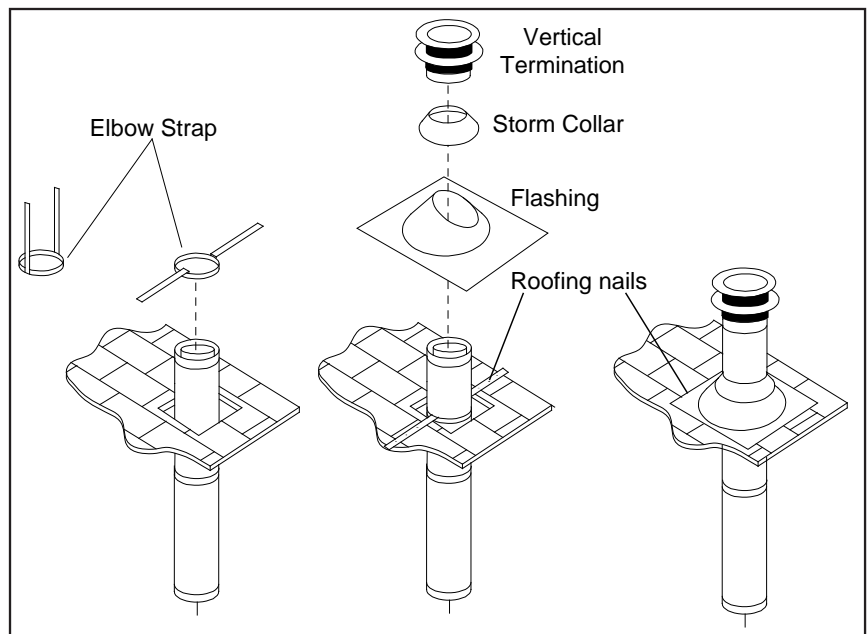
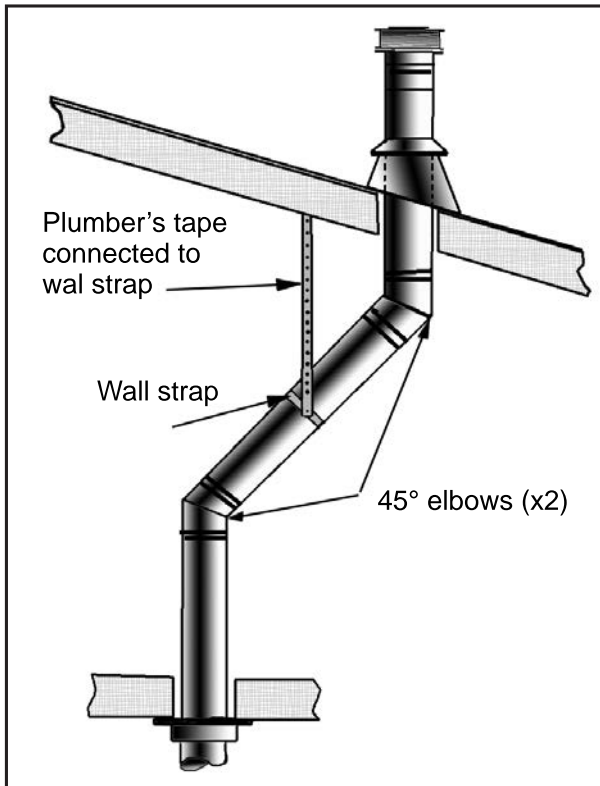
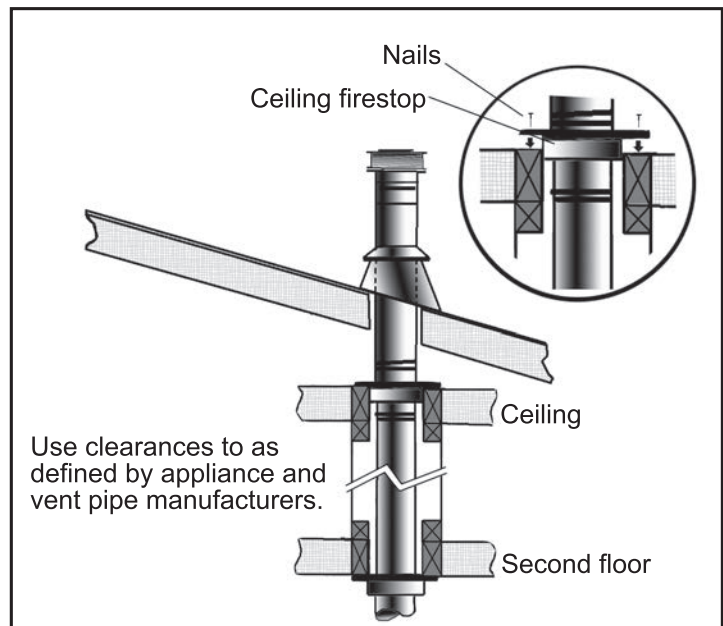

Figure 53: Vertical Vent Termination
Figure 55: Use of Wall Straps.
Figure 56: Multi-Story Vent Pipe Installation
- Step 3.** To install the Round Support Box/Wall Thimble in a flat ceiling, cut a **10 " (25.4 cm)** square hole in the ceiling, centered in the hole drilled in Step 2. Frame the hole as shown in Figure 53.
- Step 6.** Once the pipe sections have been joined, and run up through the hole in the roof, slip an elbow strap over the exposed sections, bend the support straps outwards, and push the elbow strap down to the roof level, as shown in Figure 53. Tighten the clamp around the pipe section. Use a level to make sure the pipe is truly vertical. With roofing nails, secure the support straps to the roof. Seal the nails holes heads with non-hardening mastic. Trim the excess length of the support straps that extend out beyond the edge of the flashing.
- Step 9.** Slip the storm collar over the pipe, and push it down to the top of the roof flashing as shown in Figure 53. Use the non-hardening sealant around the joint between the pipe and the storm collar.
- (1) If an offset is necessary in the attic to avoid obstructions, it is important to support the vent pipe every **3' (914 mm)**, to avoid excessive stress on the elbows, and possible separation. Wall straps are available for this purpose (see Figure 55).
- (2) When ever possible, use 45° degree elbows instead of 90° degree elbows. The 45° degree elbow offers less restriction to the flow of flue gases and intake air.
- (3) For multi story installations; a ceiling firestop is required at the second floor, and any subsequent floors (see Figure 56). The opening should be framed to **10" (254 mm) x 10" (254 mm)** inside dimensions, in the same manner as shown in Figure 53.
- (4) Any occupied areas above the first floor, including closets and storage spaces, which the vertical vent passes through, must be enclosed. The enclosure may be framed and sheet-rocked with standard building materials. However consult the appliance manufactures installation instructions for the minimum allowable clearance between the outside of the vent pipe, and the combustible surfaces of the enclosure. Do not fill any required air spaces with insulation.